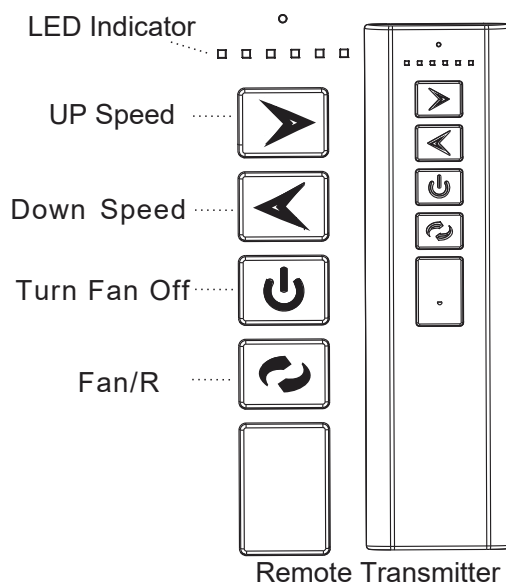

Fig.4
**The buttons on the remote control transmitter control the fan speed and light as follows.** (Fig. 4)